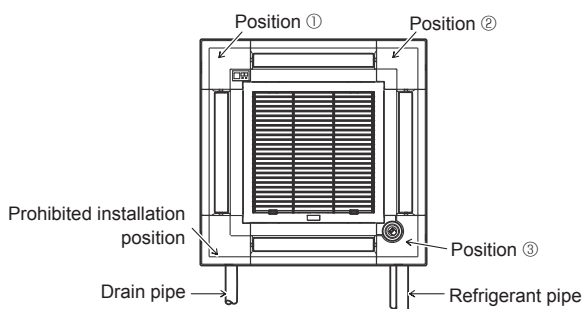

Fig. 6-11
The signal receiver corner panel can not be installed on the drain pipe side for the main unit. (Refer to Fig. 6-11)
- The i-see Sensor corner panel should be fixed onto the grille (1) with screw (3).
- If the position of the i-see Sensor was changed from default position (position (3)) to the other position, change the function settings. (Fig. 6-11)
- The i-see Sensor corner panel can not be installed on the drain pipe side for the main unit. (Refer to Fig. 6-11)